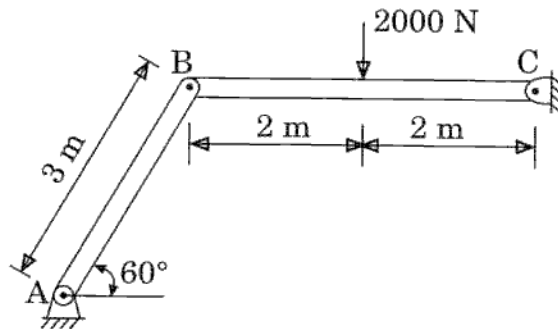

Figure 1(a)
- Q1.** (a) Determine the horizontal and vertical components of force which the pin at 'C' exerts on member BC of the frame in Figure 1(a).